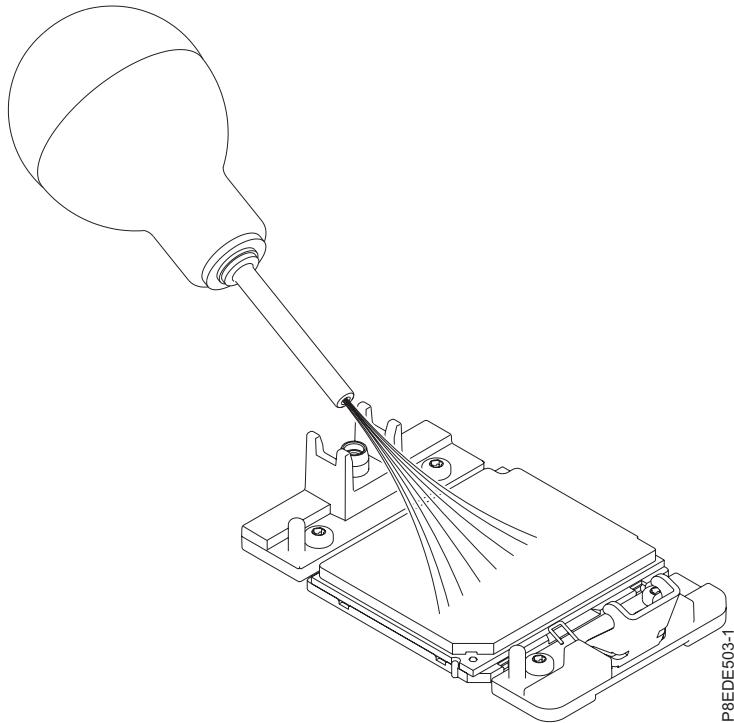

Figure 125. Removing dust and debris from the system processor module area
- a. If dust or debris is present, use the supplied air pump (part number 45D2645) to clean the system processor module area. Blow small bursts of air from the center toward the sides of the system processor module as shown in Figure 125 on page 127.